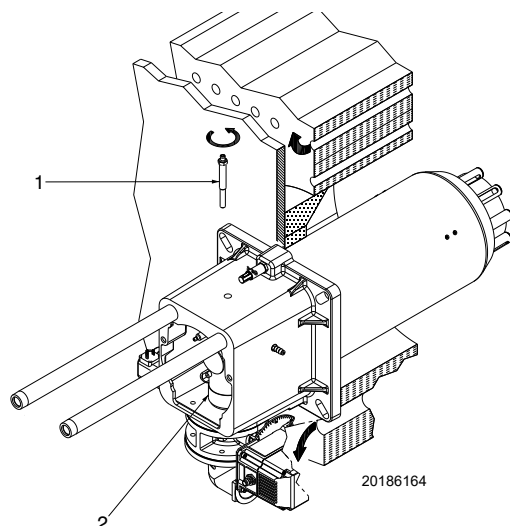

Fig. 13
- remove the screw 1)(Fig. 13);
At this point of the installation, the combustion head is fixed to the boiler as shown in Fig. 13. It is therefore especially easy to adjust, and this adjustment depends only on the maximum output of the burner.